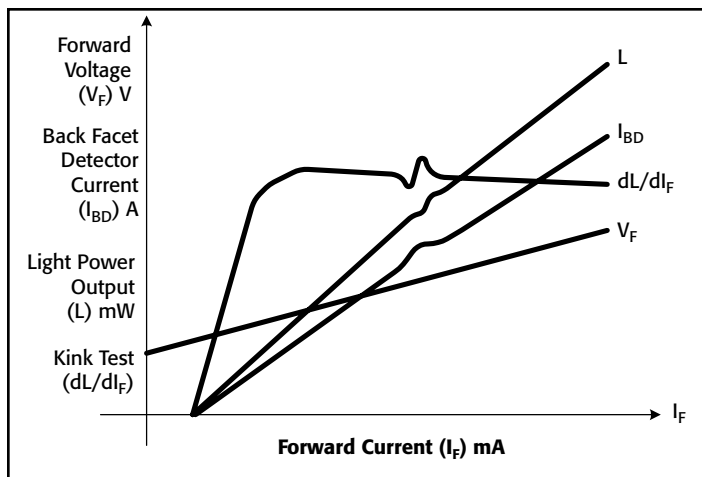

Figure 5. Typical Suite of LIV Curves
Figure 5. The relationship between the drive current (I_F) and the light output power (L) should be linear about the nominal operating range. If the relationship is truly linear over the tested range, the first derivative of the curve will be a nearly horizontal line. This is graphed as dL/dI_F . The first derivative will tend to amplify any bumps or kinks in the light/current (L - I) curve. If this curve has any significant “kinks” or, in other words, is not smooth, the laser is considered defective. If operated at the I_F value corresponding to the “kink,” the light output will not be proportional. The maximum value of the second derivative of the L vs. I_F curve can be used to calculate the threshold current, which is the value of the drive current at which the LD starts “lasing” or outputting significant light.